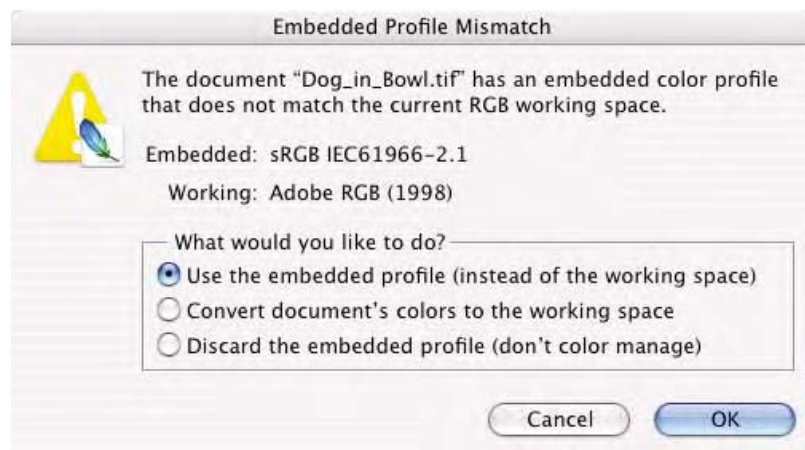

Fig. 9-5-3 The **Embedded Profile Mismatch** dialog with the default radio button set to **Use the embedded profile** (instead of the working space).
2. Upon opening this document, you should get an **Embedded Profile Mismatch** dialog as seen in Fig. 9-5-3. This is because the document **Dog_in_Bowl.tif** has the sRGB profile embedded into the document. Notice that the radio button that is highlighted by default is set to **Use the embedded profile (instead of the working space)**. The presently set and preferred RGB working space is Adobe RGB (1998) as seen toward the top of this dialog box next to the heading named **Working**. The reason the radio button is set to preserve the embedded profile (and thus sRGB) by default is due to the policy: **Preserve Embedded Profiles**. This policy ensures that the default option is to preserve the profile embedded in the document instead of the working space.